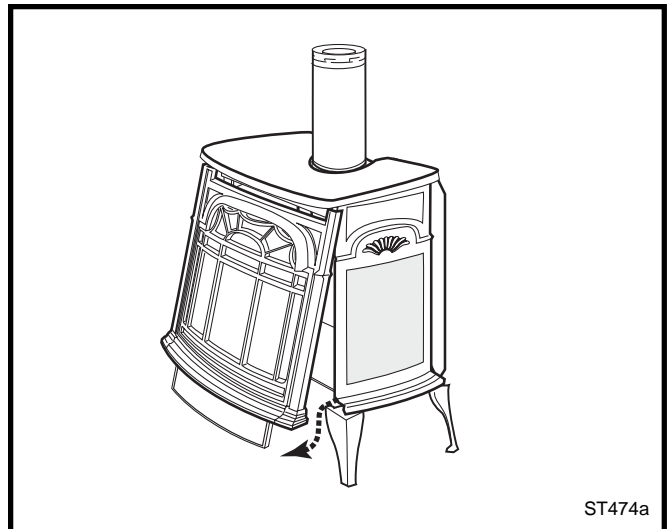

Fig. 67 Remove the Stove Front.
1. Remove stove front. Lift stove front up and then swing bottom out and away to disengage from the stove body. (Fig. 67, Page 36)
Replace glass only with Vermont Castings approved parts. Refer to page 39 for Replacement Parts. Refer to Figure 67 and previous instructions for removal of the damaged glass frame.
1. Remove the Front, Glass Frame and Glass Panel. (Figs. 67 & 68) Remove the old gasket. Use a razor blade to separate the glass and gasket from the frame, and to clean the glass of any remaining cement or bits of gasket. Use a cold chisel if necessary.